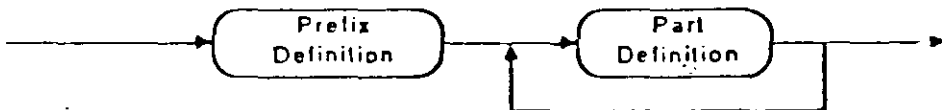

Figure 7-9. Syntax Diagram for a Library Source File
Figure 7-9 is an example of a syntax diagram. It represents the complete syntax for a library source file.
3. Junctions represent a connection point where you have the choice of selecting another path. For example, the syntax diagram for the library source file shown in Figure 7-9 has a junction after a part definition. You can choose to complete the diagram or to make another part definition.
4. You cannot continue along a path that goes against the arrows. For example, in Figure 7-9 after making a part definition you cannot choose to return to the prefix definition.
What are identifiers? Identifiers serve as placeholders for a more detailed level of syntax structure. They do not represent a command or tokens. Rather, they provide the ability to give an overview of the syntax. When you create the part, you must work down through all the nested identifiers. For example the syntax diagram for a library source file shown in Figure 7-9 has two identifiers and no tokens. This section will now expand each of those identifiers and present all the possible tokens.